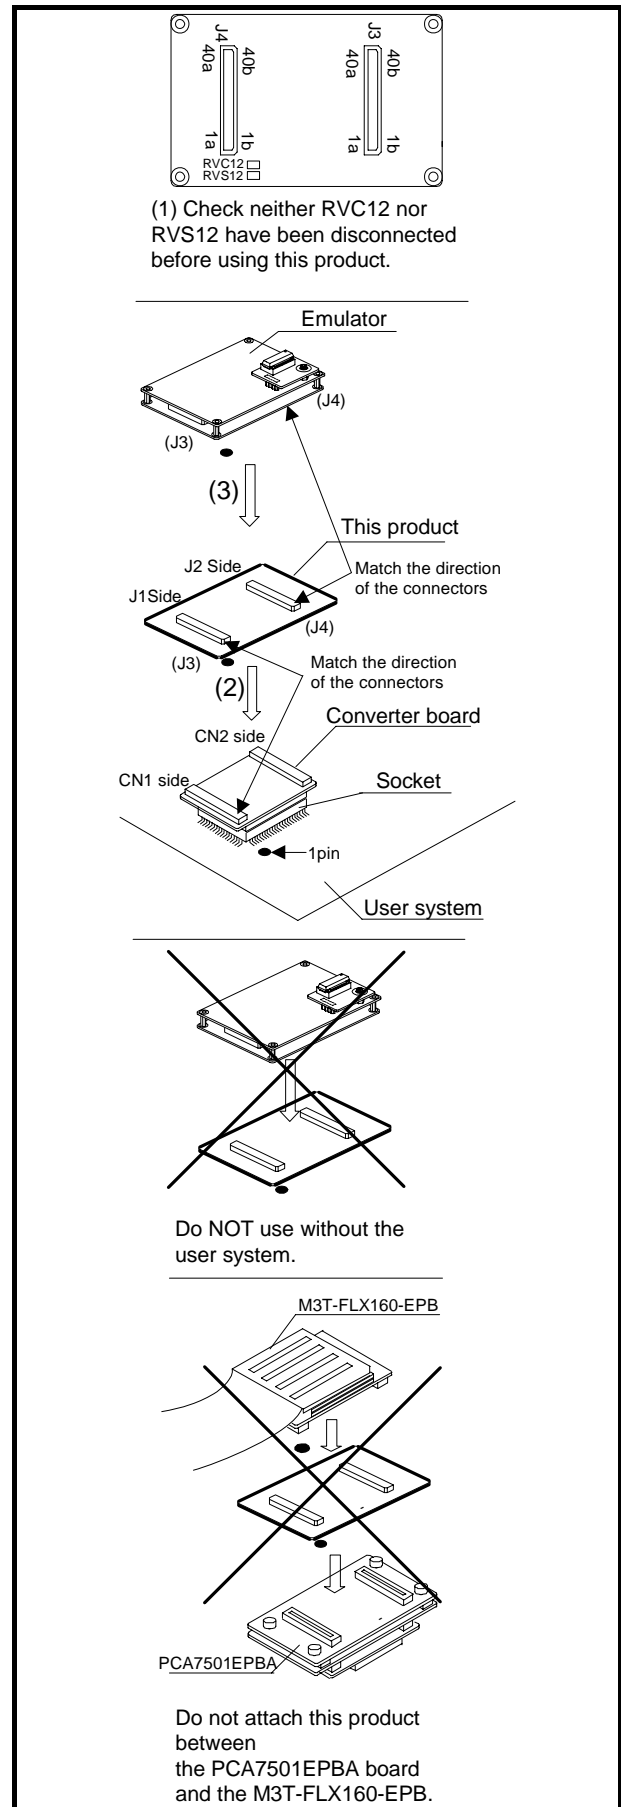

Figure 2 Connection procedure of the ROE330850ACBP0
4. Connection Procedure (See Figure 2)